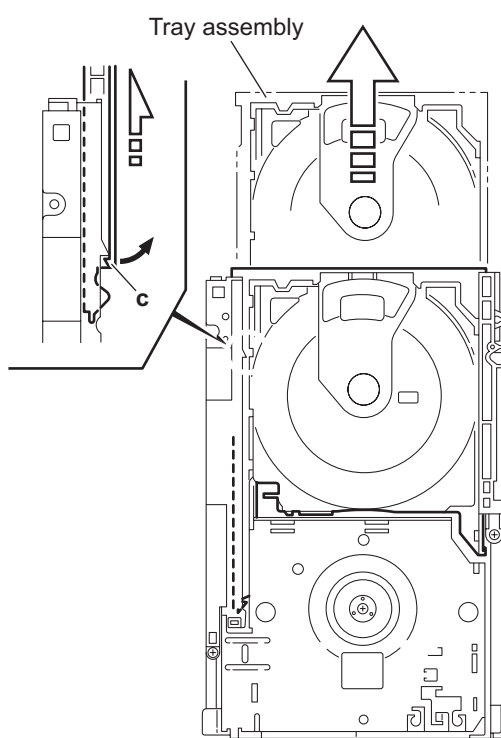

Fig.5
- (5) From the topside of the DVD changer mechanism assembly, move the stopper tabs **c** in the direction of the arrow and release them. Pull out the tray assemblies from the DVD changer mechanism assembly. (See Fig. 5.)